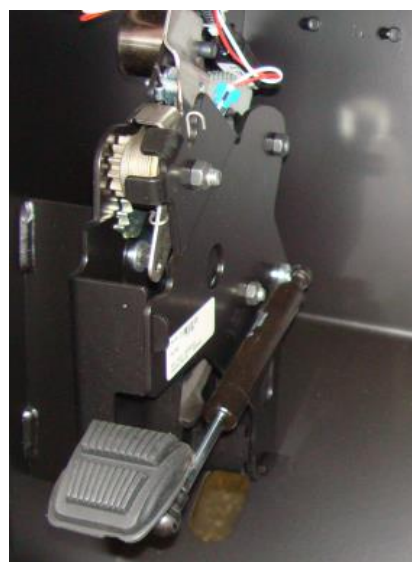

Figure 1 - Foot Brake Pedal
2. Release the foot park brake to the fully released position (See Figure 1).